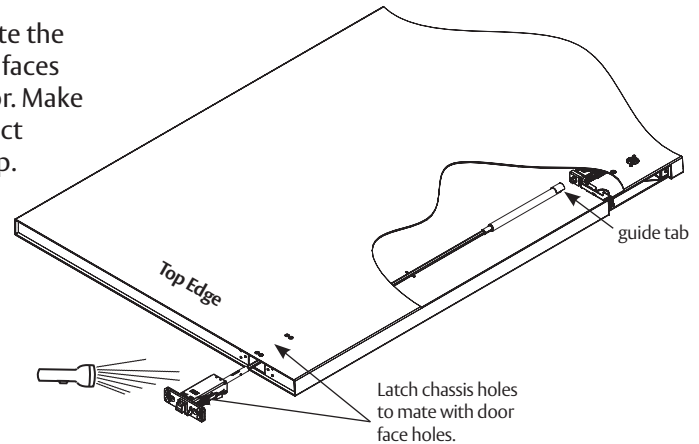

Figure 37
- Orient the latch chassis as shown. Rotate the rod and rod guide so the rod guide tab faces up. Slide the rod assembly into the door. Make sure the rod guide remains in the correct orientation with the guide tab facing up. (Figure 37)